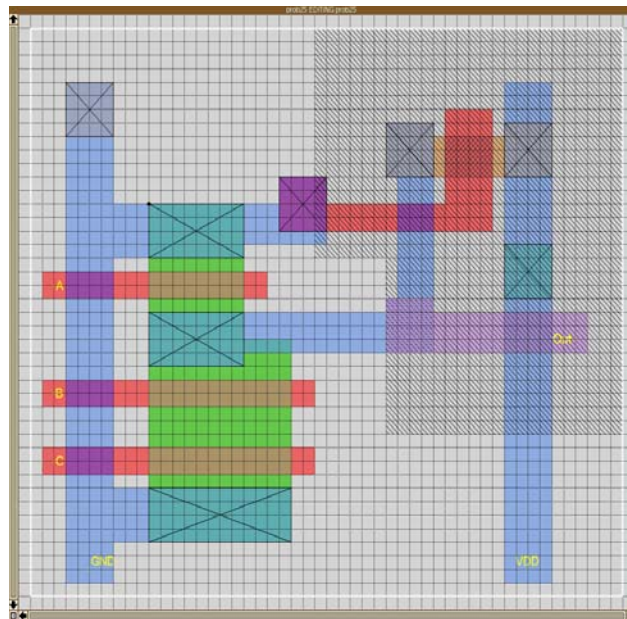

Figure 6.17 Layout of complex gate.
25. [C, None, 4.2–3] For this problem, refer to the layout of Figure 6.17.